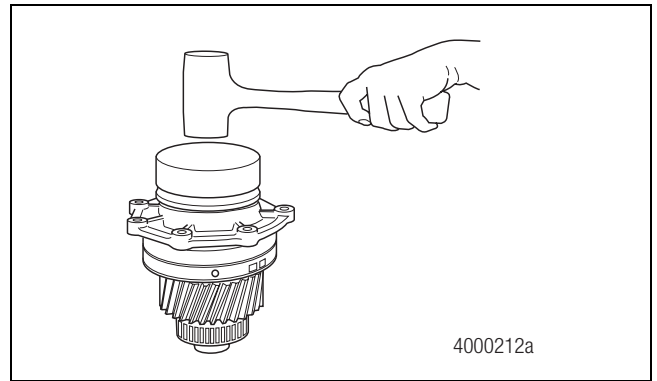

Figure 6.24
6. Install the input seal. Hold the sleeve and seal only on the outer diameter. Position the seal onto the input seal driver and align it with the shaft. Do not touch the lips in the inner diameter of the seal. Use a dead-blow hammer and the appropriate driver to install the seal onto the output shaft. Figure 6.24.